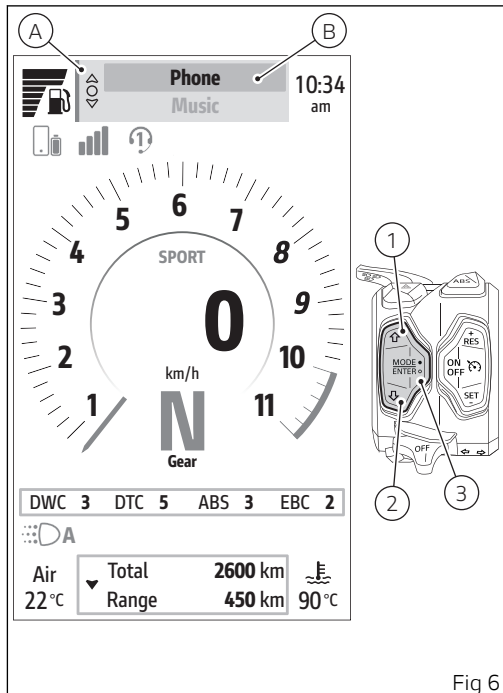

Fig 6
To return to the call in progress window (D), select "Phone" (B, Fig 6) from the Interactive Menu, and press ENTER (3).